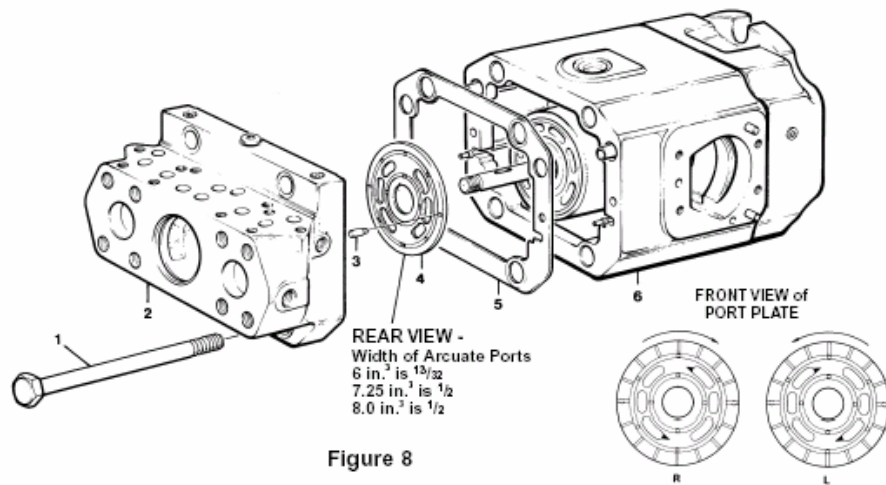

Figure 8
**See Figure 8.** Position the pump with the unplugged hold in the housing assembly at 12 o'clock position.
### PARTS LIST FOR FIGURE 8